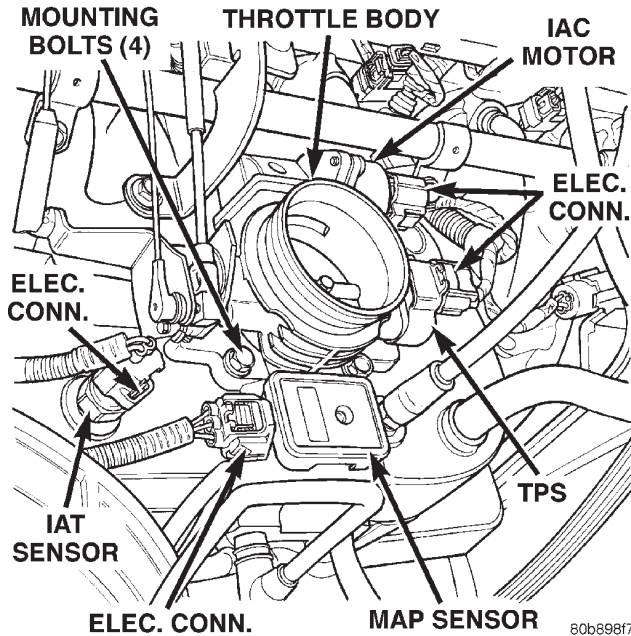

Fig. 22 Throttle Body and Sensor Locations—4.0L Engine
- (1) Remove air cleaner duct and air resonator box at throttle body.
- (2) Disconnect throttle body electrical connectors at MAP sensor, IAC motor and TPS (Fig. 22).
- (3) Remove all control cables from throttle body (lever) arm. Refer to Accelerator Pedal and Throttle Cable.
- (4) Remove four throttle body mounting bolts.
- (5) Remove throttle body from intake manifold.
- (6) Discard old throttle body-to-intake manifold gasket.